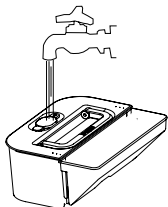

Fig.3
2. As shown in Fig. 3, take out the water tank, open the flexible plastic inlet, inject clear water, and replace the inlet lid.